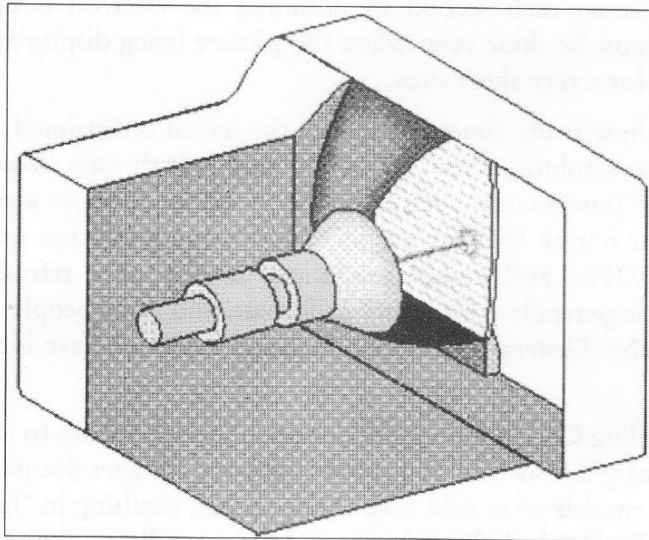

Figure 5.7: Single-color, CRT
The figure 5.7 shows only one electron gun. This is classic of a monochrome, or single-color, CRT. However, virtually all CRTs today make color images. These devices have three electron guns, one for the primary color red, one for the primary color green, and one for the primary color blue. The CRT thus creates three overlapping images: one in Red (R), one in Green (G), and one in Blue (B). This is the so-called RGB color model.